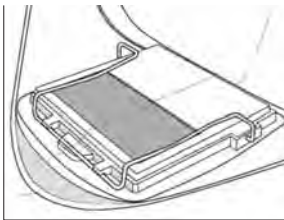

Figure 2
**Change the Shade Cartridge** (See figure 2)